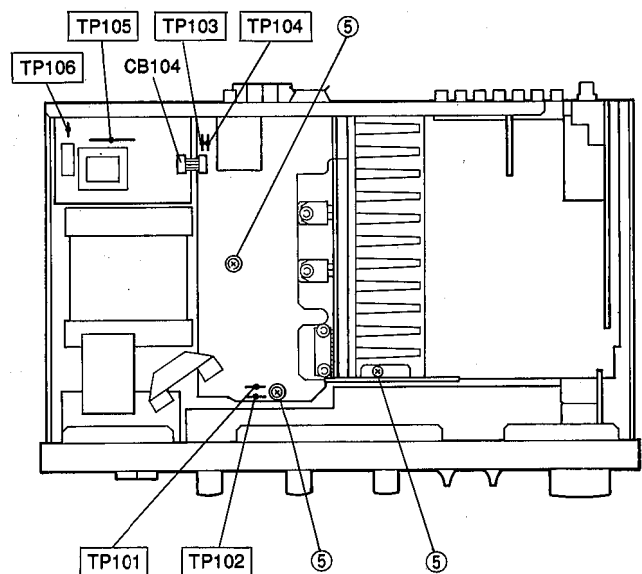

Fig. 3
- Remove 3 screws (⑤) fixing the Main Unit in Fig. 3.
- Detach 1 connector terminal (CB104) in Fig. 3.
- Operating checks can be taken by shorting between following test points in Fig. 3.